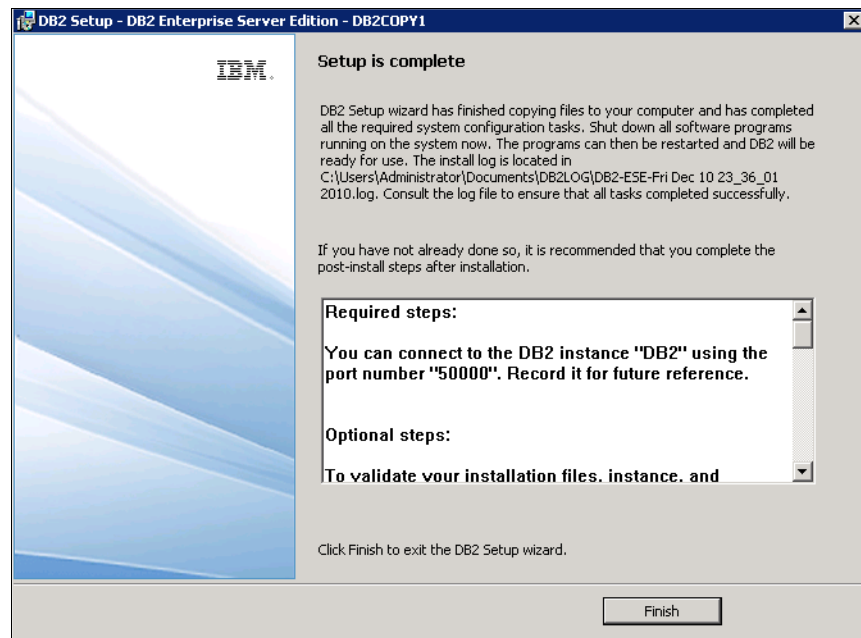

Figure 12-18 Setup is complete
16. When the setup completes, click **Finish** (Figure 12-18).